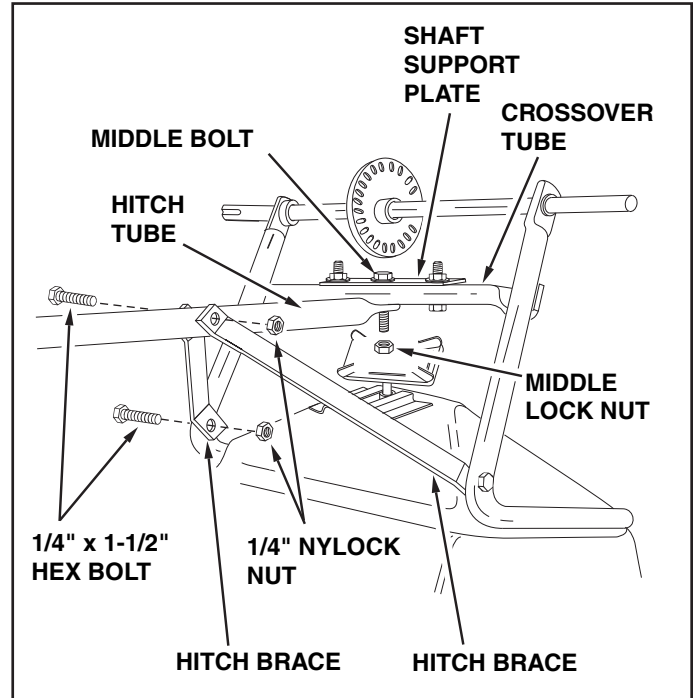

FIGURE 2
3. Remove the lock nut from the middle bolt in the crossover tube and shaft support plate. Leave the bolt in place. See figure 2.
4. Assemble the short end of the hitch tube onto the middle bolt and secure it with the same lock nut you removed. **Do not tighten at this time.** See figure 2.
5. Assemble the two hitch braces to the inside of the hopper frame, one on each side, using two 1/4" x 1-3/4" hex bolts and two 1/4" nylock nuts. See figure 2. **Do not tighten at this time.**
6. Assemble the two hitch braces to the hitch tube using a 1/4" x 1-1/2" hex bolt and a 1/4" nylock nut. See figure 2. **Do not tighten at this time.**